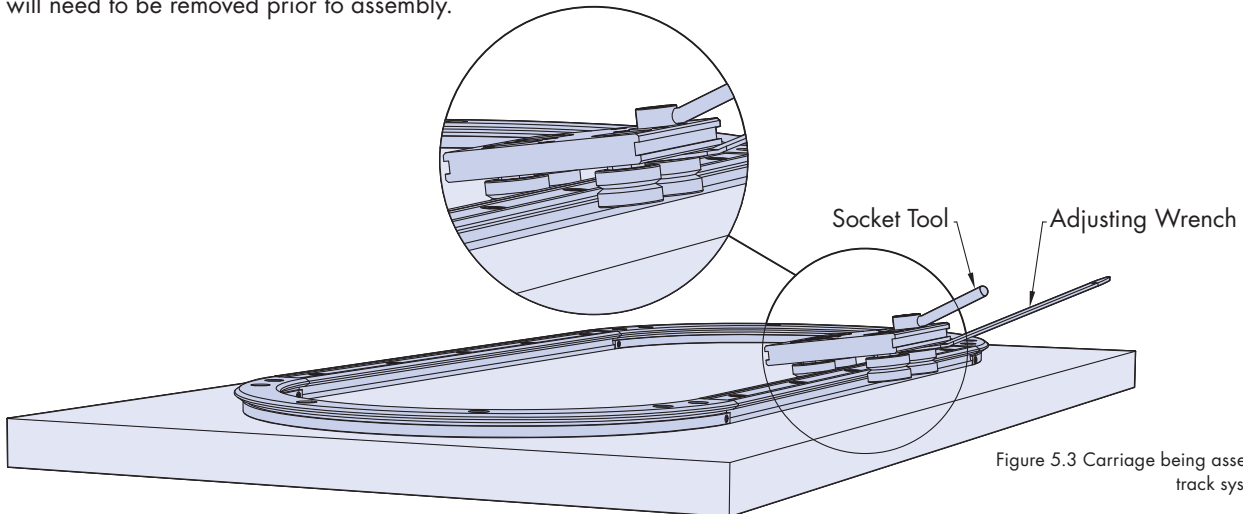

Figure 5.3 Carriage being assembled after the track system is complete
5.3 The second method is to adjust the carriage plates onto the slide once the track system is complete. This is done using a socket tool and adjusting wrench as illustrated in figure 5.3. If using this method of fitting the carriage plates, any lubricators that are fitted will need to be removed prior to assembly.